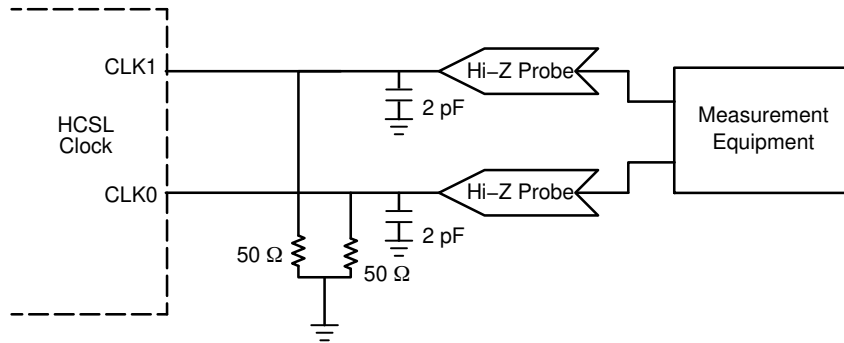

Figure 8. HCSL Parameter Measurement
- Measurement taken with outputs terminated with  $R_S = 0\ \Omega$ ,  $R_L = 50\ \Omega$ , with test load capacitance of 2 pF. See Figure 8. Guaranteed by characterization.